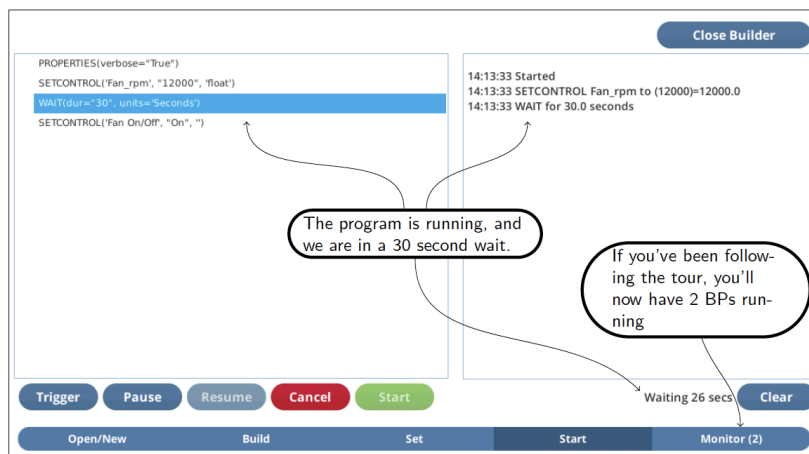

Figure 2-10. The step currently being executed in the program is highlighted in the left list.
- 6 When you start running the program (tap **Start**), you should see things start to appear in the right-hand run log (Figure 2-10 below).